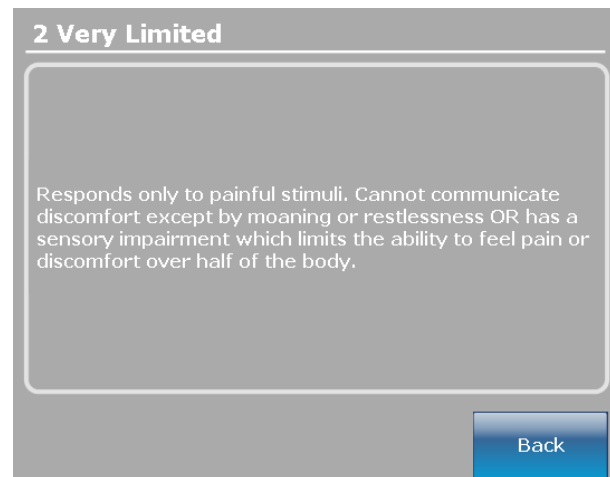

Figure 10.22b
When the  is pressed for any items 1-4, additional information will be provided for that item. See example for item 2 (Very Limited) in Figure 10.22b.